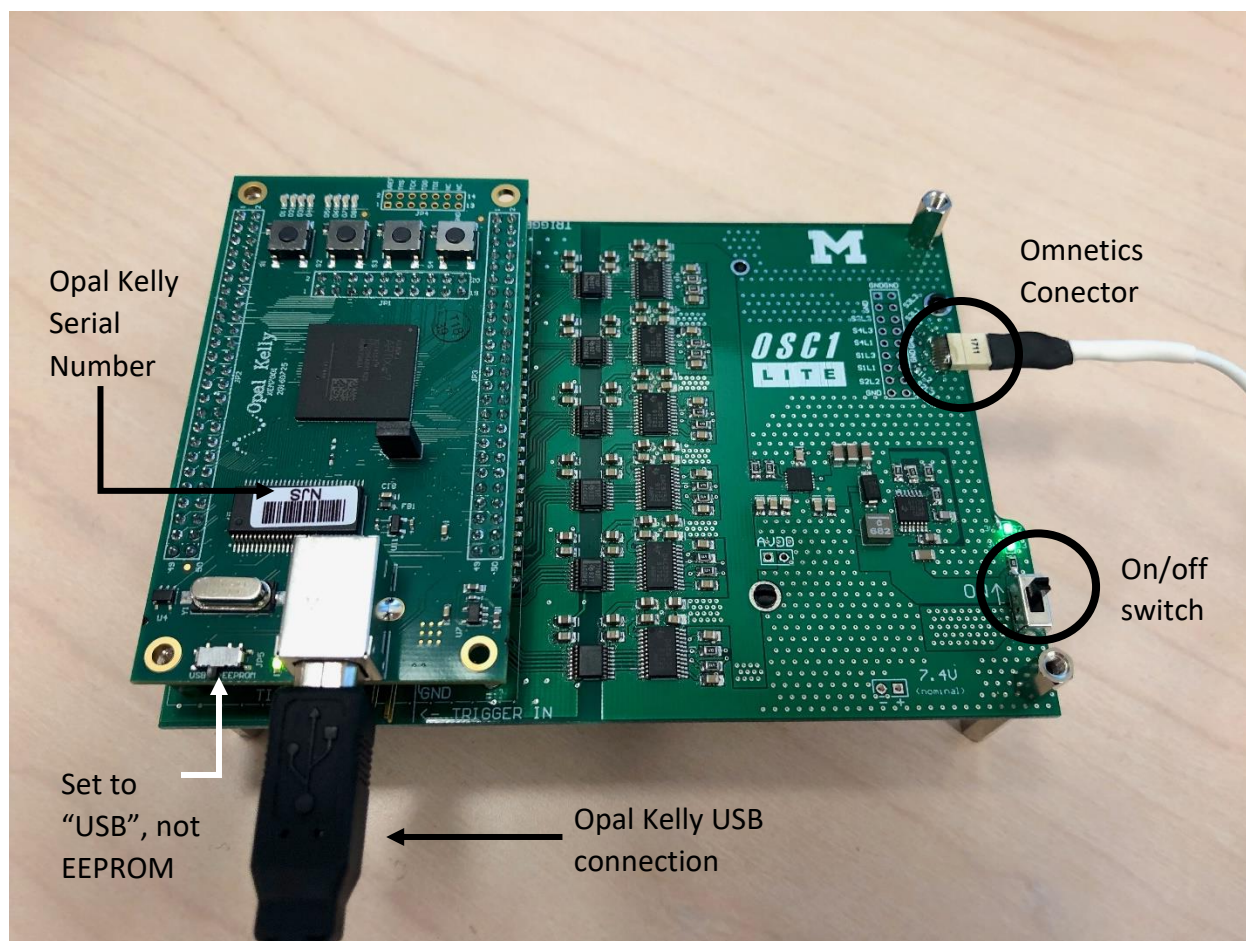
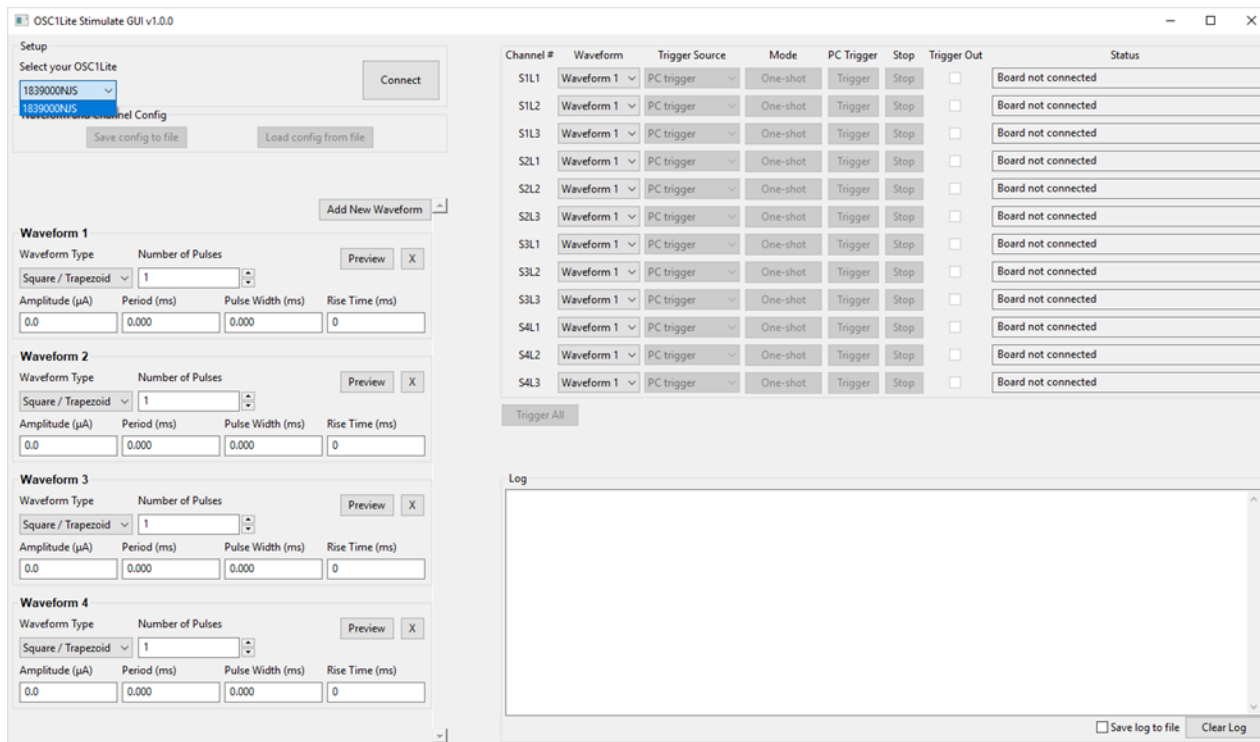
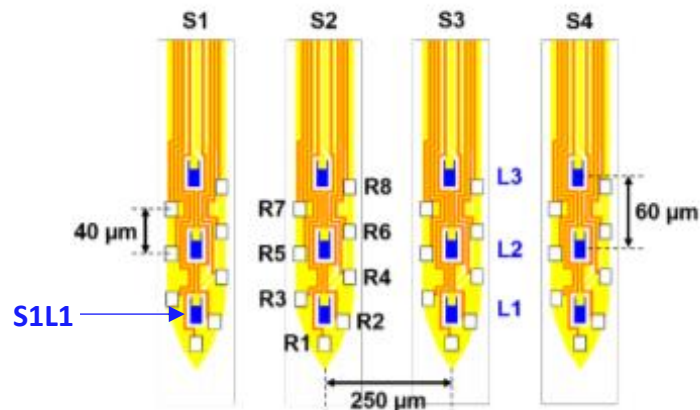

Figure 4. Top of OSC1Lite board
Figure 5 OSC1Lite GUI
Figure 9 Optoelectrode LED map
Step 2 Flip the switch on the bottom right of the board (**Figure 4**). Two green LEDs should turn on. If you do not see any LEDs turn on:
Step 3 Connect your computer to the Opal Kelly board using the USB cable provided (**Figure 4**). Take note of the last 3 alphanumeric characters of the Opal Kelly module as seen next to the barcode (**Figure 4**). Run the open source software and ensure that all channels are OFF (see GUI usage below). Make sure the switch is set to USB, not EEPROM (**Figure 4**).
The first step to complete upon opening the GUI is selecting which Opal Kelly to connect with. A “drop-box” of all connected Opal Kelly devices (connected via USB cable) (**Figure 5**) allows you to select your Opal Kelly based on its serial number. The last 3 alphanumeric characters of the Opal Kelly module can be seen next to the barcode of the Opal Kelly module (**Figure 4**). If you do not see your Opal Kelly device:
Each channel has a corresponding 'Channel #' (see **Figure 5**) to indicate which LED on the probe the channel is stimulating. For example, S1L1 corresponds to shank 1, μ LED 1, as seen below in **Figure 9**.